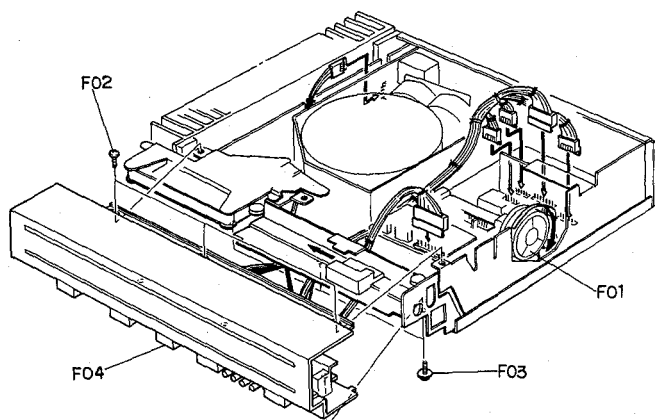

Fig. 3.3
Refer to Fig. 3.3. Remove Side Panel R, Top Cover Ass'y and Side Panel L referring to items 3.1 and 3.2.